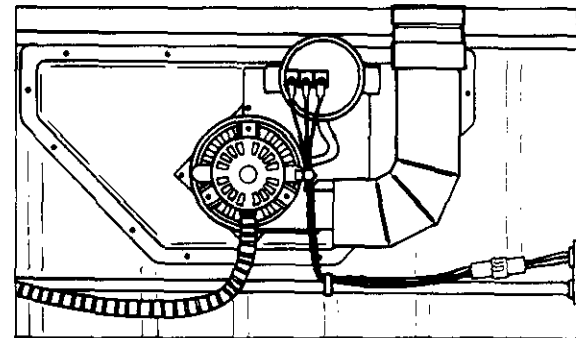

Figure 41 (4-050)
2. Place draft inducer on four mounting studs with vent outlet on the right. See Figure 41. Attach draft inducer to draft inducer collector box. Use four #8-32 hex nuts from hardware package. Tighten to torque of 60 inch-pounds.
1. Install pressure switch on mounting studs at top and right side of draft inducer. Use #8-32 hex nuts from hardware package. See Figure 41.
3. Connect pressure tubing to draft inducer pressure fitting as shown in Figure 41. Be sure tubing is open and has no kinks or splits.
5. Remove wire clamp on left hand side of draft inducer motor mount. See Figure 41.
9. Install wire tie provided in hardware package around pressure switch wires and fan/limit control conduit. Tighten securely. Place wire tie directly beneath wire clamp. See Figure 41.
11. Compare completed installation with Figure 41.